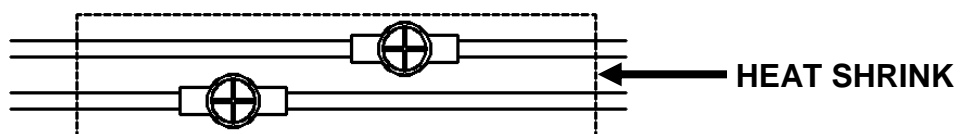

Figure 3. Thermocouple to Cable Connection
6. Slide the heat shrink tube over the sensor cable and connect the thermocouple to the cable as shown below in figure 3.